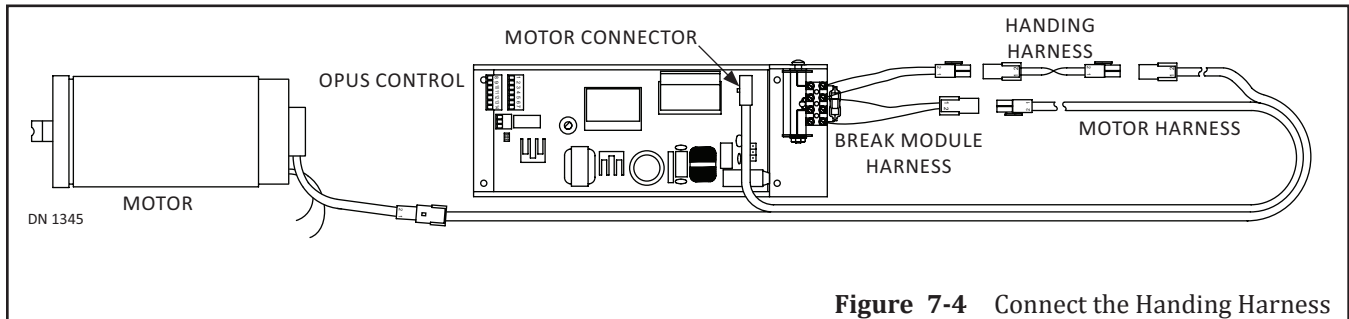

Figure 7-4 Connect the Handing Harness
2. Connect the (Break Module Harness) Female Pin to the Male Pin Housing (Handing Harness). Please see Figure 7-4.